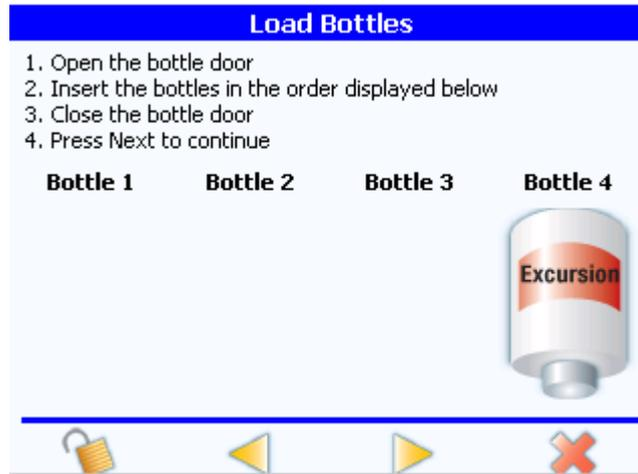

Figure 6-30 Excursion mode without validation dialog box
- **Excursion without validation button** tells the analyzer to run the excursion without validation and opens the excursion without validation load bottles dialog box. See Figure 6-30 and follow the instructions in Excursion without validation, page 111.
- 1) Install the standards bottles following the instructions as shown in the load bottles dialog box and ensuring that you place the standards bottle in the correct position. See Figure 6-30. From left: